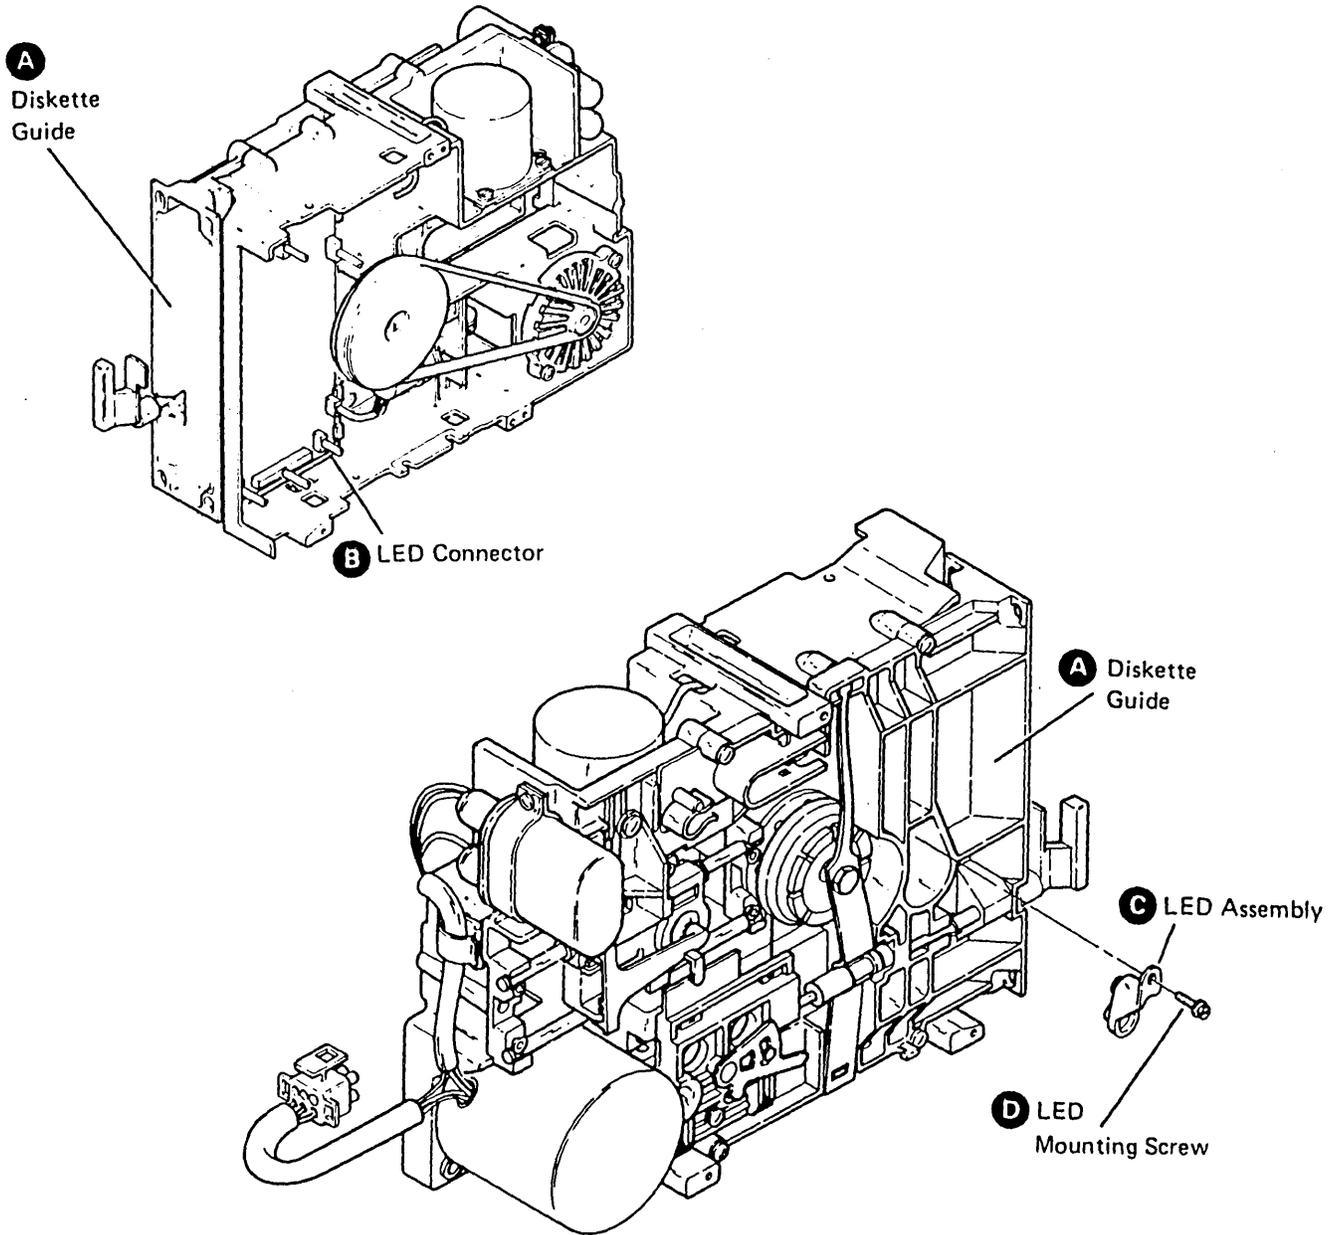

Figure F-37. LED Removal and Replacement
F.3.6.3 LED Removal (Figure F-37)
F.3.6.4 LED Replacement (Figure F-37)